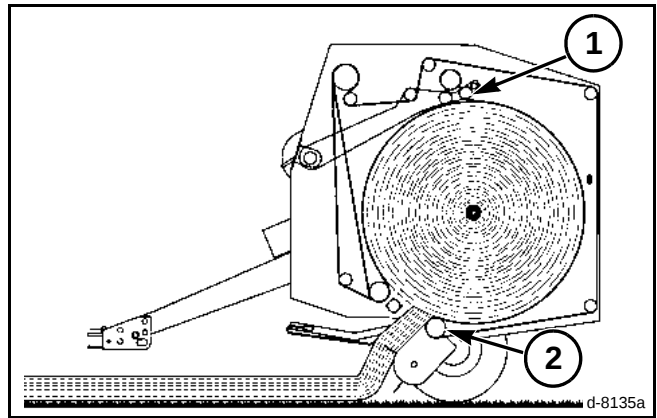

FIG. 21
FIG. 21: The illustration shows the full size bale. The bale density rolls (1) have moved upward, to increase the size of the bale chamber. The bale is on the tailgate carrier roll (2).